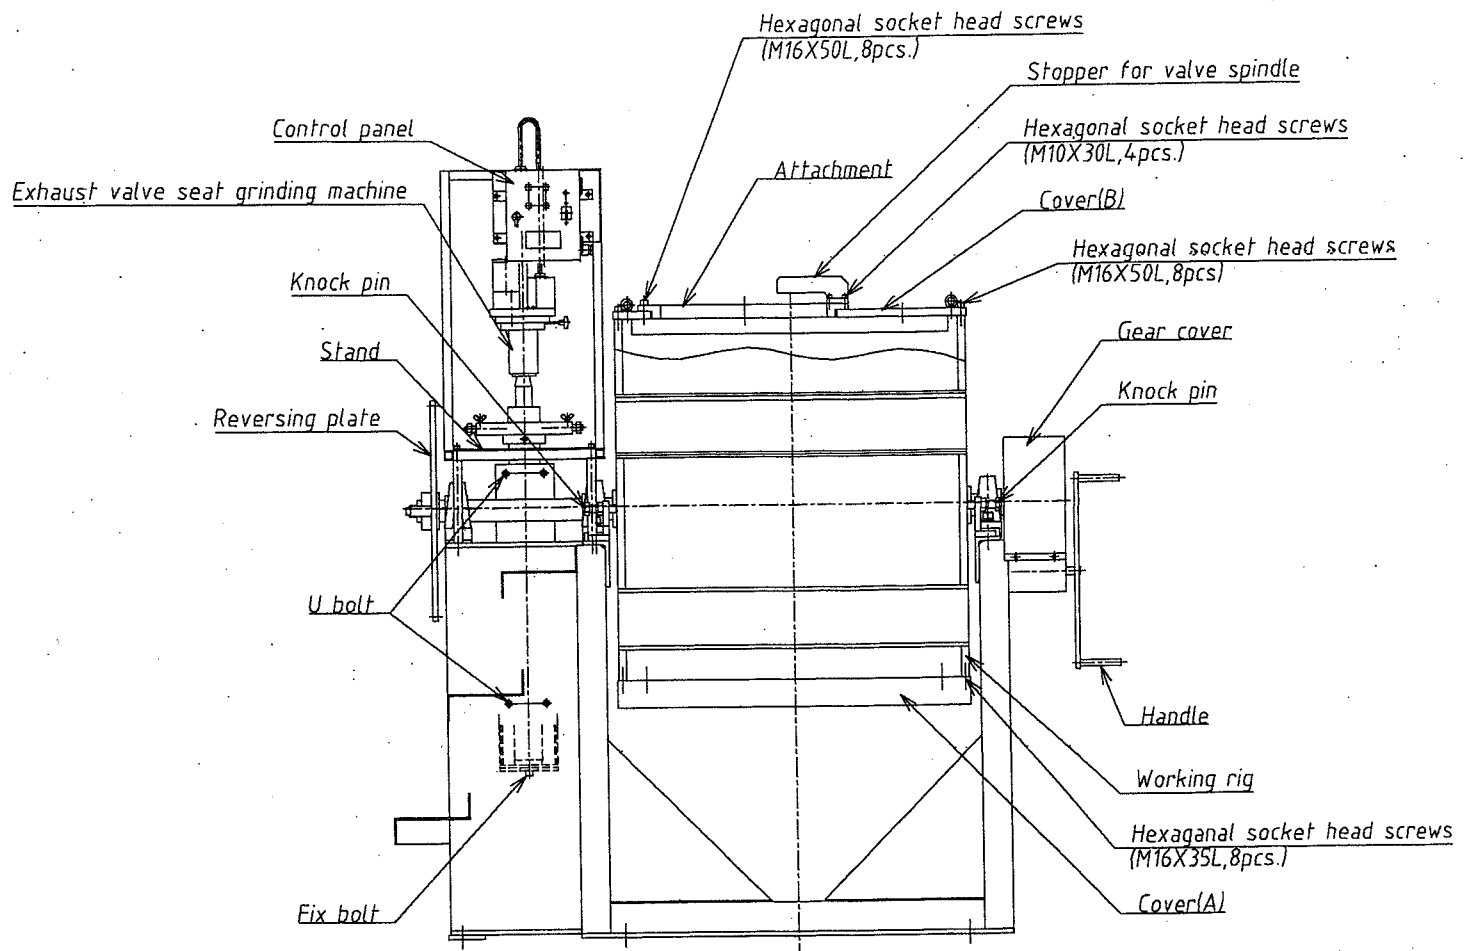
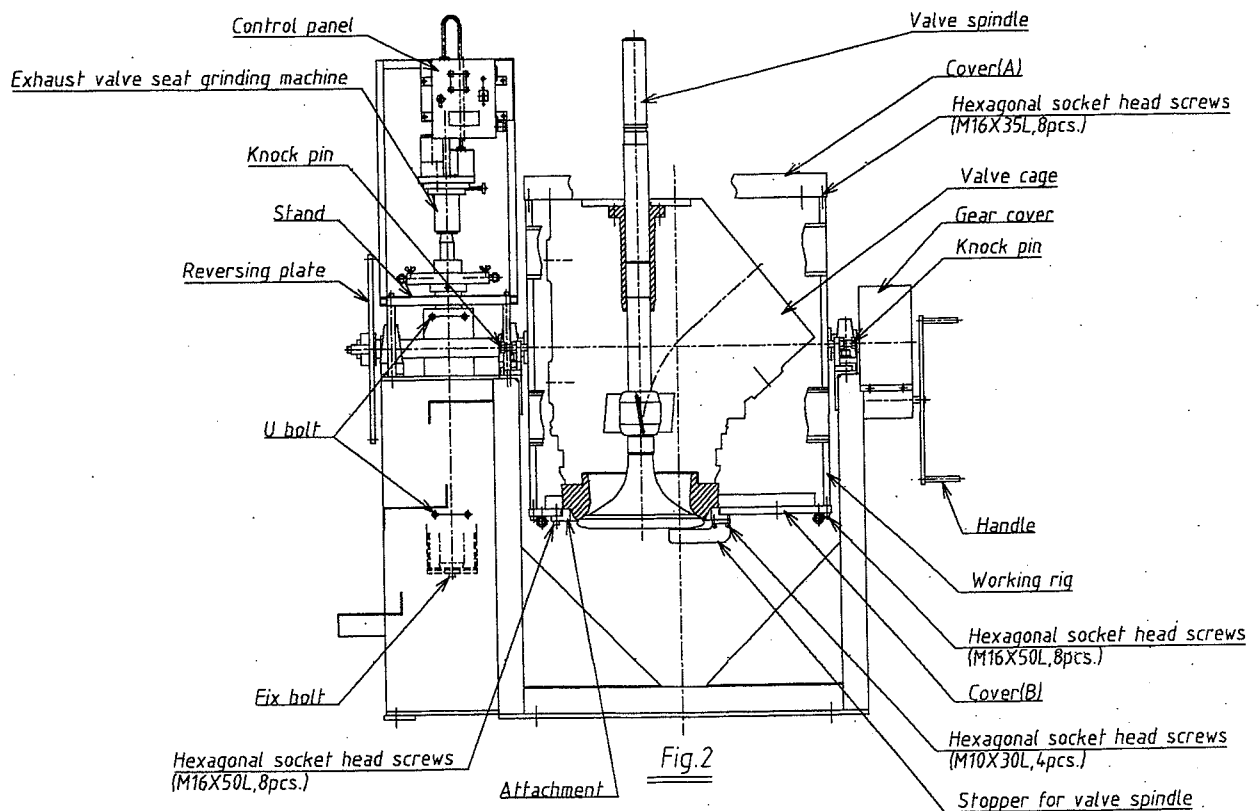

Fig.1
Fig.2
- ★ The equipment is made for turning the valve spindle (See Fig.2) or Fuel pump unit (See Fig.6). Don't use it for other purposes.
- ★ The stopper shall be used at fitting work of the cover (A) (B) or the attachment with screws. Otherwise the worm gear will break.
- ★ Fasten tightly the fix bolts for the cover (A) (B) and the attachment. If not, the parts will be broken away and troubles happen.
- ★ Turn the fuel pump unit after fixed cover (A) and (B) on the working rig from the balance point. (See Fig.1) If not, the worm gear will break and an accident will happen.
- ★ At the turning of the working rig both of the cover(A)and cover (B)shall be fixed on it. (See Fig.1)
- ★ Open the gear cover periodically (See Fig.1) and check the gears and the bearings if any damages or abnormal wear on them. If damages found, don't use the working rig and repair or replace the parts from us or through sales route.
- ★ Open the gear cover periodically (See Fig.1) and grease the gears by hands.
1. Rotate the working rig to get the cover (B) upward. (See Fig.1)
2. Set the attachment to the cover (B) by hexagonal socket head screws (M16 x 50L, 8pcs.) (See Fig.1)
3. Fix the stopper for valve spindle on the attachment by hexagonal socket head screws (M10 x 30L, 4pcs.) (See Fig.1)
4. Rotate the working rig to get the cover (B) downward. (See Fig.2)
5. Remove two covers (A).
8. Fix two covers (A) on the working rig by hexagonal socket head screws (M16 x 35L, 8pcs.) (See Fig.2)
9. Reverse the valve cage and valve spindle by the handle. (See Fig.2)
1. Set the positioning pins ($\phi 16 \times 2$ points) of the reversing plate (See Fig.1 & 5) into the holes ($\phi 17 \times 2$ points) of the attachment. (See X-X, Y-Y on Fig.5)
4. Reverse the fuel pump unit rotating the handle. (See Fig.1)